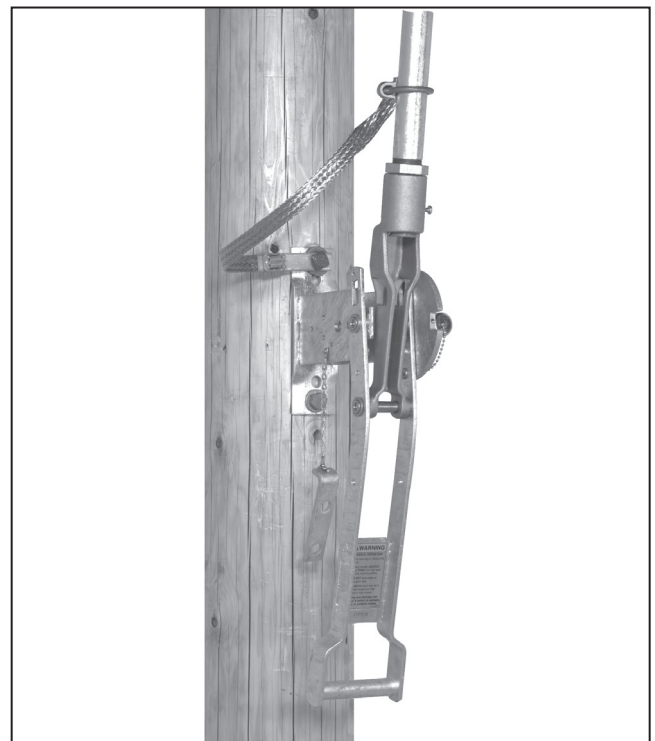

Figure 19. Attaching the grounding strap.
STEP 17. Fasten the free end of the grounding strap to the lowest vertical operating-pipe section a few inches above the operating handle assembly with the U-bolt connector provided for this purpose. See Figure 19. Then, connect the lower end of the strap to a suitable earth ground, using the grounding connector provided at that end of the strap.●